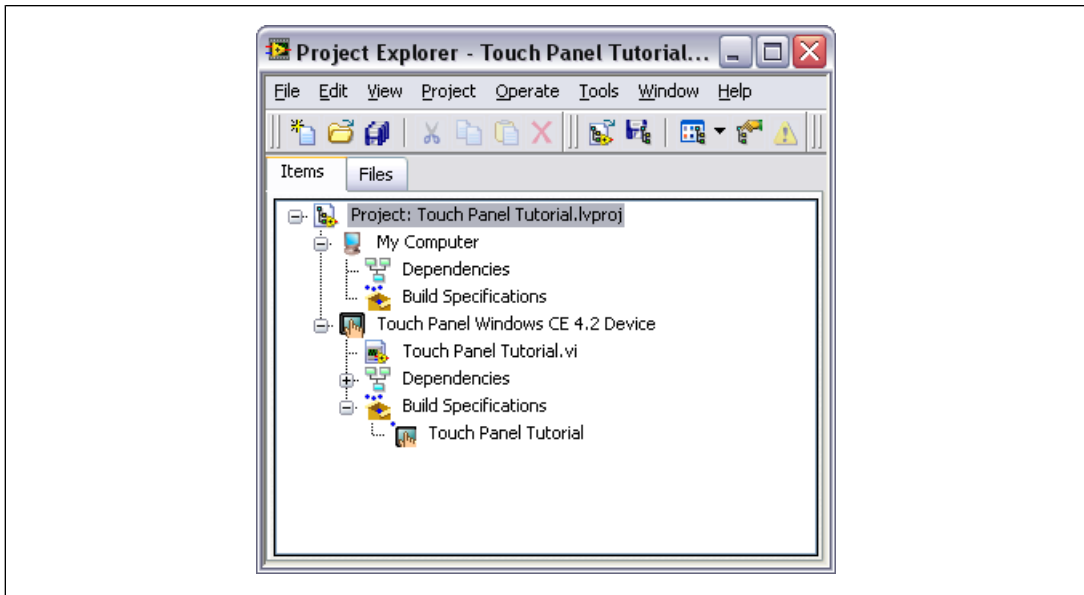

Figure 7. Project Explorer Window
6. Click the **OK** button. The build specification you just created appears in the **Project Explorer** window under the Touch Panel target, as shown in Figure 7.